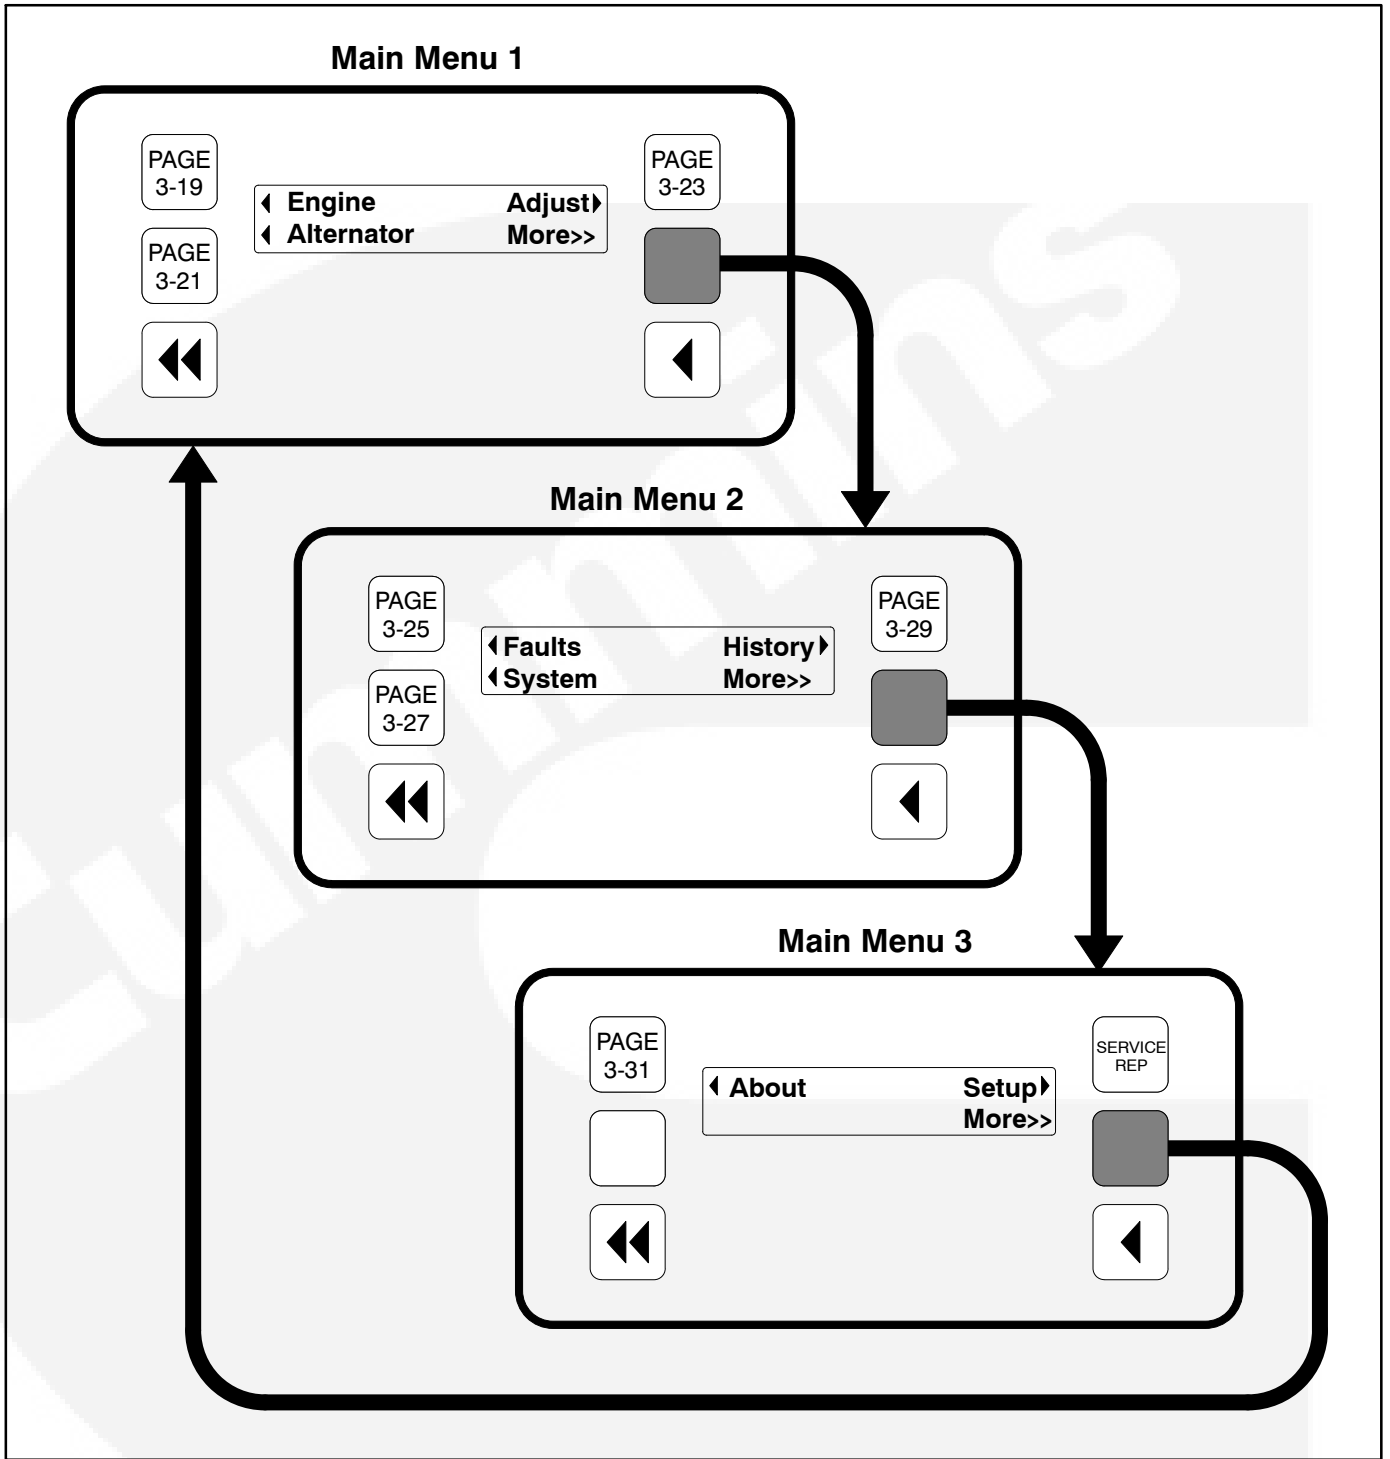

FIGURE 3-5. MAIN MENUS
- In the digital display for main menus (Figure 3-5), the ◀ and ▶ symbols indicate that pressing the adjacent button causes the operating program to go to the selected submenu (e.g., Engine Menu in Figure 3-9).
- In the digital display, the More>> symbol indicates that pressing the adjacent button causes the operating program to go to the next main menu, as shown in Figure 3-5.
**Home Button:** Pressing this button causes the operating system to show Main Menu 1 (Figure 3-5) in the digital display.
Figure 3-5 shows the three major main menus available to the user. Figure 3-5 also includes references to pages in this section where you can find additional information on submenus. When viewing a submenu, you can press the previous main menu button at any time to view its main menu.